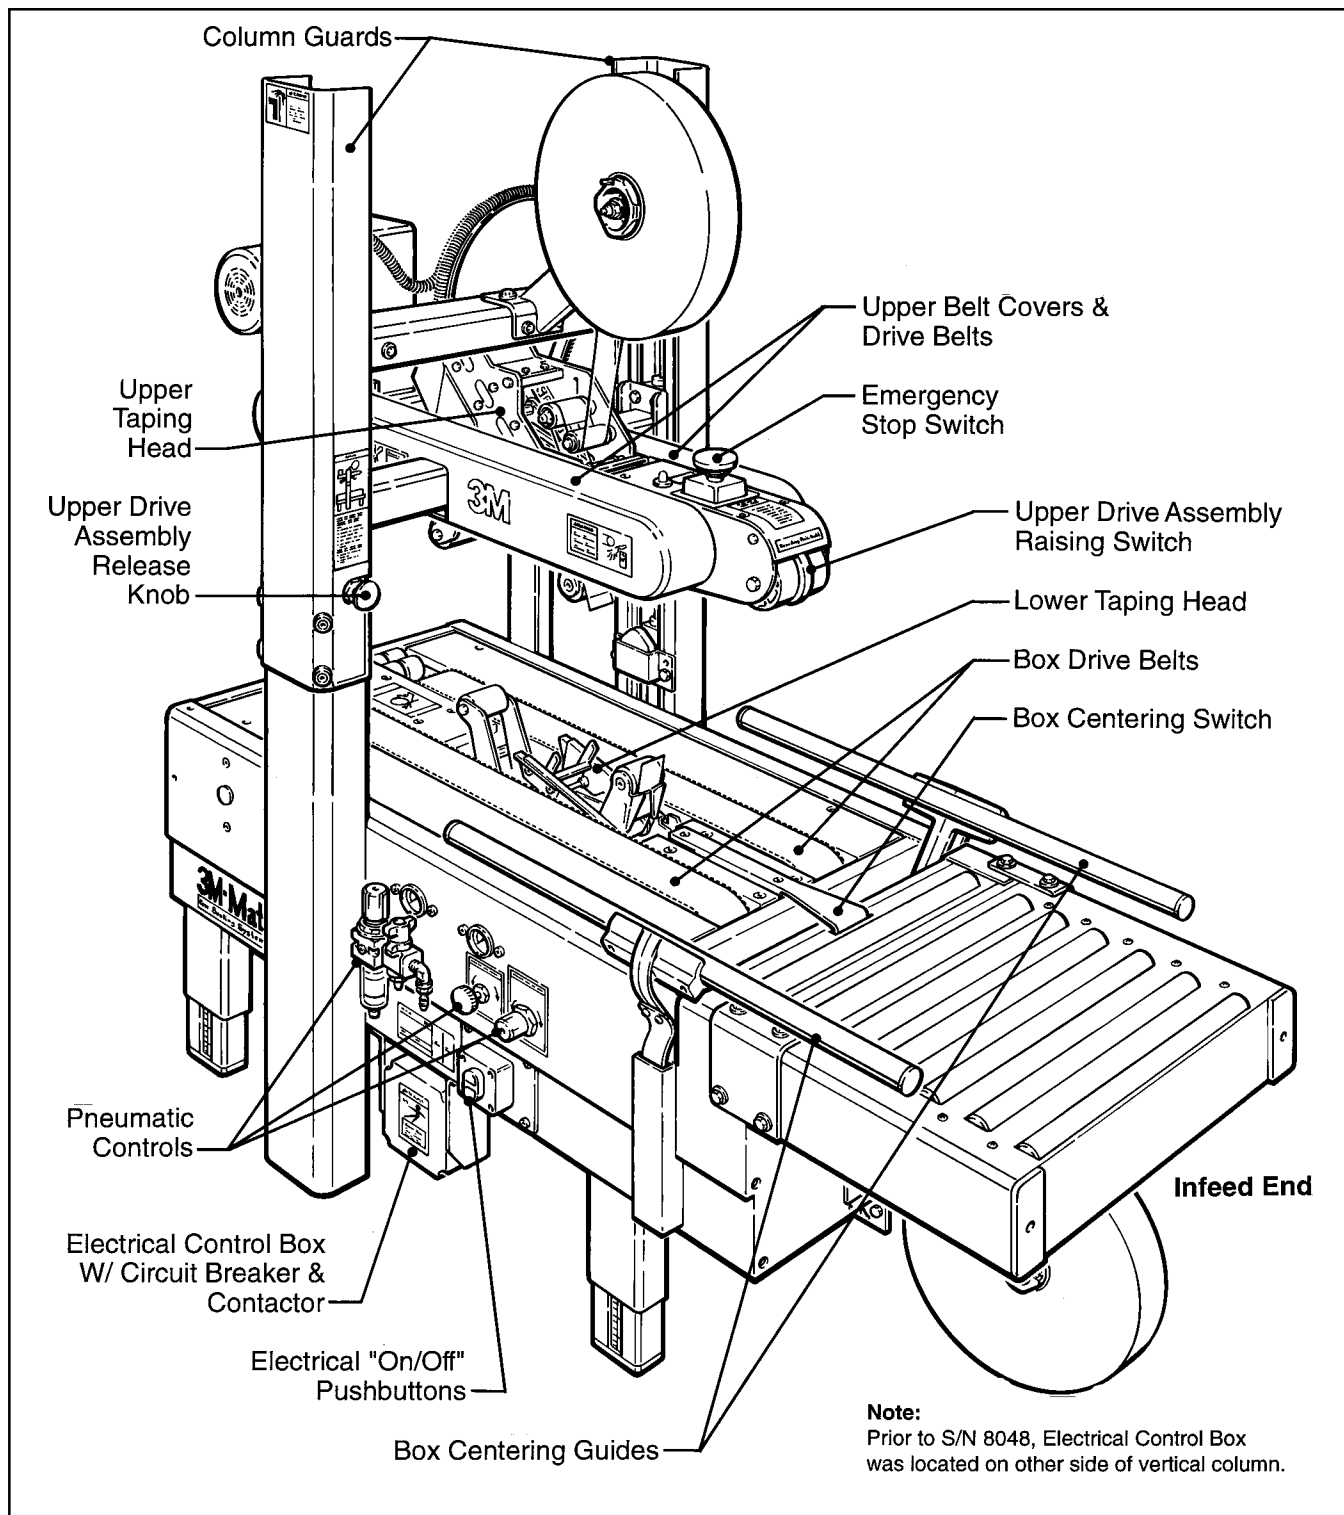

Figure 3-1 – 700r Case Sealer Components (Left Front View)
The following instructions are presented in **the order recommended** for setting up and installing the case sealer, as well as **for learning the operating functions and adjustments**. Following them step by step will result in your thorough understanding of the machine and an installation in your production line that best utilizes the many features built into the case sealer. Refer to Figure 3-1, page 15, to identify the various components of the case sealer.
The case sealer requires a 5 bar gauge pressure 110 litre/min [70 PSIG], @21°C, 1.01 bar [3.75 SCFM] compressed air supply. As shown in Figure 3-1, an on/off valve, pressure regulator, and filter are provided to service the air supply.
The electrical control box and "On/Off" switch are located on the lower left side of the machine frame. See Figure 3-1. If desired, for operator convenience, the "On/Off" switch can be relocated to the right side of the machine frame. A standard three conductor power cord with plug is provided at the back of the electrical control box for 115 Volt, 60 Hz., 3.8 Amp electrical service. The receptacle providing this service shall be properly grounded. Before the power cord is plugged into 115 Volt, 60 Hz outlet make sure that all packaging materials and tools are removed from the machine. **Do not plug electrical cord into outlet until ready to run machine.**
Refer to Figure 3-1 and 3-2 below to acquaint yourself with the various components and controls of the case sealer. Also see Figures 3-1 and 3-2 in Section II for taping head components.
10. Both the upper and lower taping heads utilize extremely sharp knives. The knives are located under the orange knife guard which has the 'WARNING – SHARP KNIFE' label. Before loading tape, refer to Figures 3-1 and 3-2 in Section II to identify the knife location. Keep hands out of these areas except as necessary to service the taping heads.